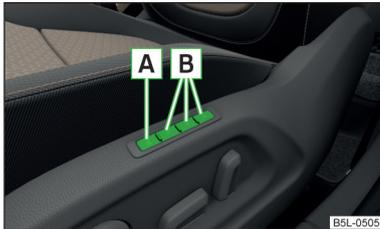

Fig. 61
The memory function for the driver's seat provides the option to store the positions of the driver's seat and the external mirrors. Each of the three memory buttons » Fig. 61 can be assigned a set position.
- › Press the button » Fig. 61.
- › Press the required memory button » Fig. 61.
- › Press and hold the desired memory button » Fig. 61 for a short while.
- › Press and hold any memory button » Fig. 61 on page 79. After the seat has assumed the position stored under this button, at the same time press the button on the remote control key within 10 seconds.
- › Press and hold the **(SET)** button **[A]** » Fig. 61 on page 79. At the same time, press the button **[@]** on the remote control key within 10 seconds.